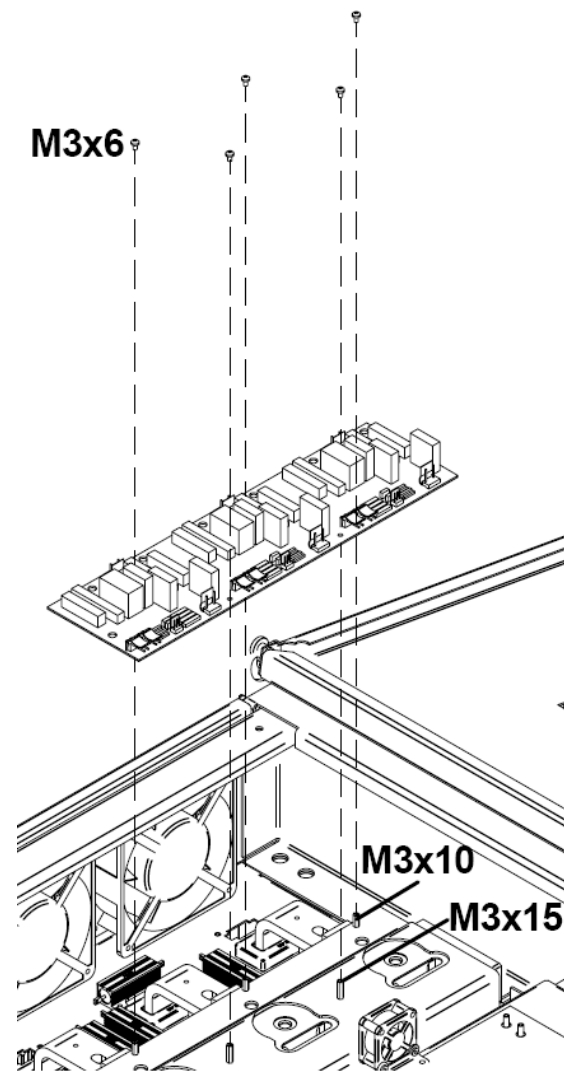

Figure 4.8. (c) Disassembly of the Snubber, Trigger and Soft Charge protection
- 5) Connect all input wiring (voltage measure cable before and after the AC Chokes) by screwing the Phillips screw **M4x8** DIN-7895H, which joins the wire terminals and the board (figure 4.8(a)).
- 6) Connect all output wiring (figure 4.8(b))